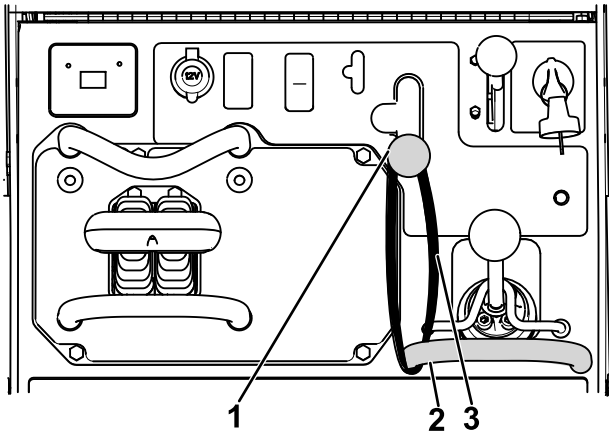

Figure 18
2. Move the auxiliary-hydraulics lever to the reverse position (Figure 18).
3. Wrap the hook-and-loop strap around right reference bar and the auxiliary-hydraulics lever to hold the lever in the reverse position (Figure 18).